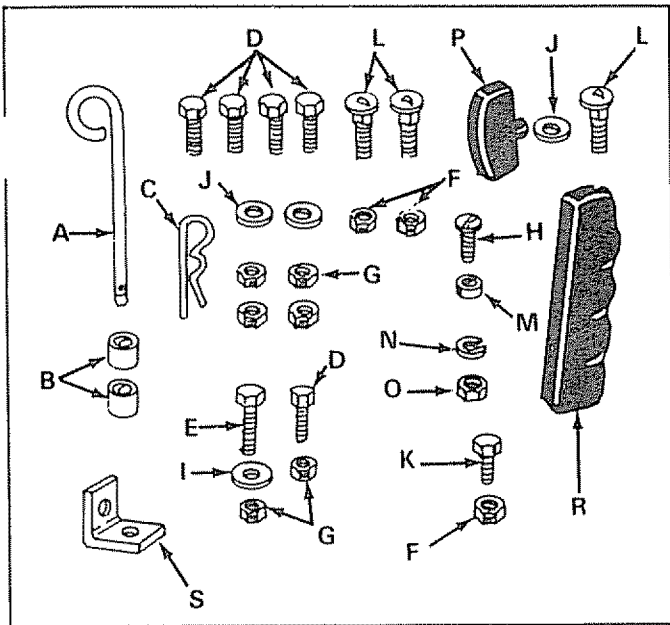

FIGURE 1
Your lawnsweeper carton and inner pack parts carton contains parts as shown in the figure below. The hardware package contains two separate packages, see figures 1 and 2 on page 3. Identify all parts and layout as shown in the figure below and figures 1 and 2.
**CONTENTS OF HARDWARE PACK: (Figure 1).**
- A (1) Hitch Pin
- B (2) Spacers 1" Dia. x 3/4" Long
- C (1) Hairpin Cotter
- D (5) Hex Bolts 3/8"-16 x 3/4" Long
- E (1) Hex Bolts 3/8-16 x 1-1/2" Long
- F (3) Hex Lock Nuts 5/16-18 Thread
- G (6) Hex Lock Nuts 3/8-16 Thread
- H (1) Slot Head Bolt 5/16-18 x 3/4" Long
- I (1) Flat Washer 17/32" x 1-1/2" x 10 Ga
Refer to carton contents figure on page 2 and figure 1 on page 3 for parts and hardware needed to assemble sweeper housing.